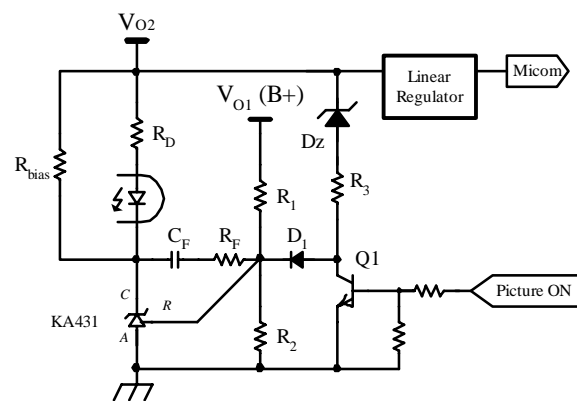

Figure 15. Typical Feedback Circuit to Drop Output Voltage in Standby Mode
6. Burst Operation : In order to minimize the power consumption in the standby mode, the FSCQ-Series employs burst operation. Once FSCQ-Series enters into the burst mode, FSCQ-Series allows all output voltages and effective switching frequency to be reduced. Figure 15 shows the typical feedback circuit for C-TV applications. In normal operation, the picture on signal is applied and the transistor Q1 is turned on, which de-couples R3, Dz and D1 from the feedback network. Therefore, only Vo1 is regulated by the feedback circuit in normal operation and determined by R1 and R2 as